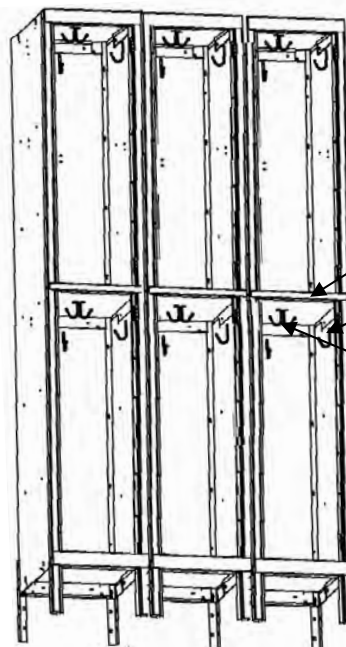

Figure 4c - Final Assembly (Double Door)
Stand the unit upright, and assure that all the bottoms have been properly seated by lightly tapping it down with a rubber mallet. **After assuring that the tops & bottom flanges are fully seated into the brackets, insert two (2) black pins (L) to each add-on bracket to help secure the brackets to the sides & backs.** Next take the remaining shelves (E), and orientate it so that the 45 degree bend is toward the door opening. Angle the shelves so they fit to the inside of the unit. Align the side holes of the shelves with the holes located on the sides between the two doors. Using the #10-24 x 3/8" screws (M), insert them through the holes of the sides and through the shelves. Install the nuts and tighten appropriately. Using the #10-24 x 3/8" screws & nuts, install the double hook (J) to the tops using the screw holes located in the center, install the single hooks (K) to all sides, and backs using the holes located just below the top. Continue by installing the same hardware for the bottom lockers using the middle shelves for the double hooks (see figure 4c for reference).